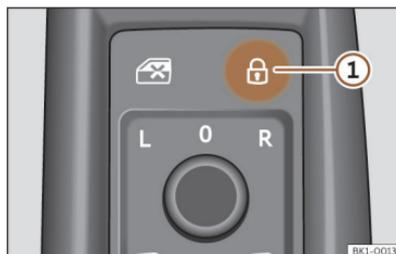

Fig. 85 On the driver's door: central locking button.
- Lock: press the  >>> **Fig. 85** button.
- Unlock: Press the  >>> **Fig. 85** button again.